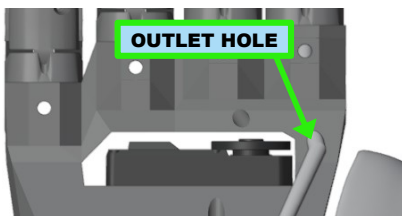
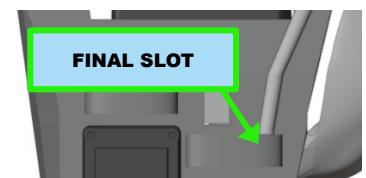

Figure 5.20: Inserting the tube into the tendon outlet hole (rear view)
Figure 5.22: Inserting the tube into the final slot (rear view)
1. Insert the PTFE tube into the outlet hole (on the rear of the skeleton) of the flexion tendon (figure 5.20), let it come out through the inlet hole on the front of the skeleton and insert it into the initial slot (figure 5.22)